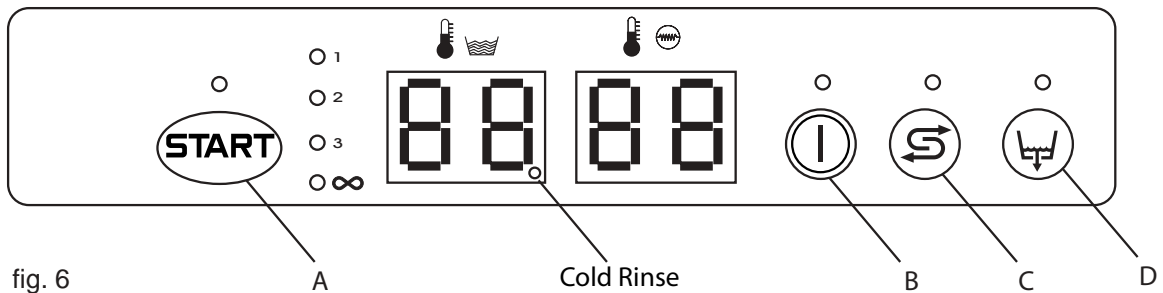

fig. 6
Open the water cock, turn the main wall switch on and start the machine pressing the key (B) (see fig. 6). The green LED lights up. After a few seconds the tank filling phase starts.
- For cycle choice, select the wash cycle (1, 2, 3, ∞) with the key (A) (see fig. 6) keeping it pressed for more than 5 seconds and release when the LED of the required cycle lights up. The green LED of the selected cycle lights up (1, 2, 3, ∞).
- Start the cycle by pressing the key (A) for not more than 1sec (see fig. 6). Starting of the cycle is signalled by the indicator of the selected cycle flashing. At the end of the cycle the indicator stops flashing and the message (END) appears on the display.
N.B.: the machine does not accept other cycles until the door is opened or the key (A) is pressed twice (see fig. 6).